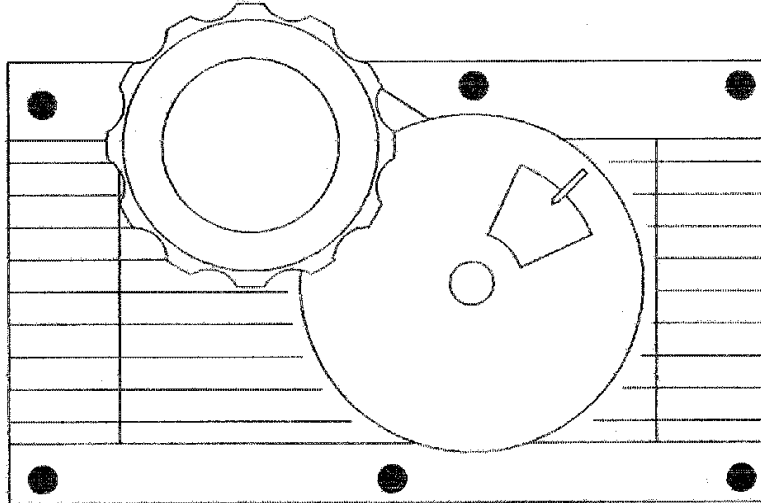

Figure 21 – Manual Cover Assembly
3. Remove the six Phillips Head screws that hold the Manual Cover Assembly to the Eccentric Box (refer to – *Figure 21*).